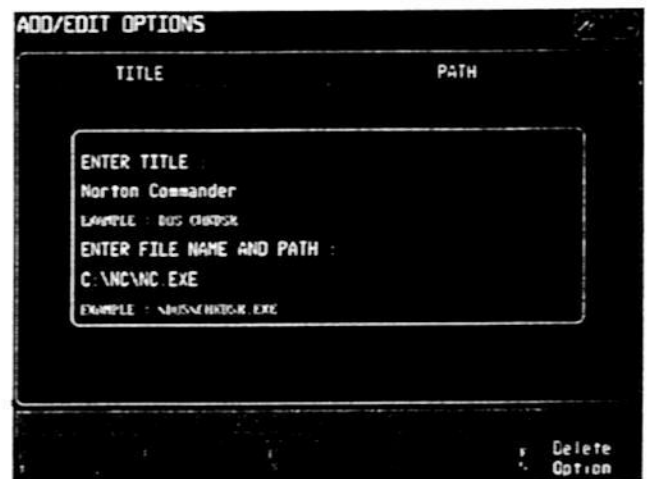

Figure 4-7
3. The dialog box (see Figure 4-7) appears, containing screen prompts. The prompts guide you through the editing of commands that the computer uses to find and run the optional software package.